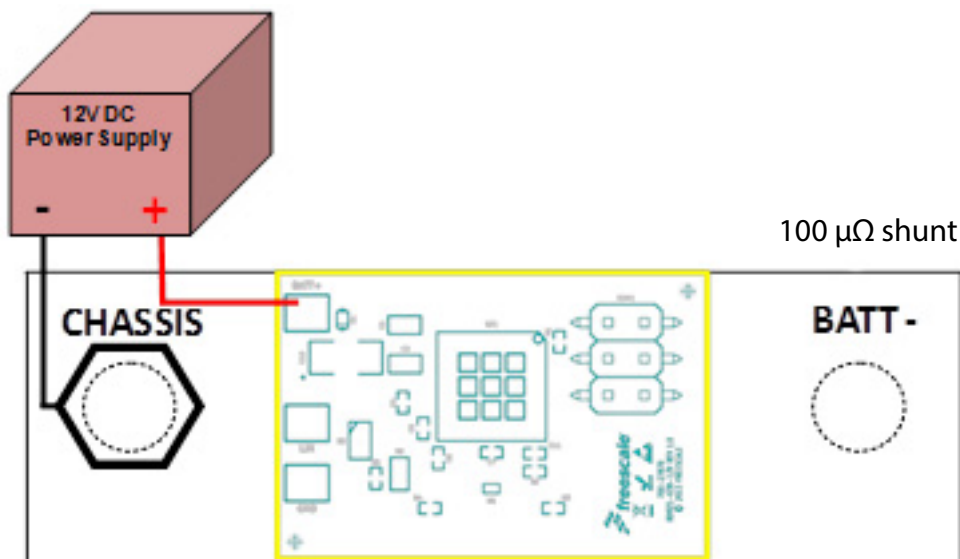
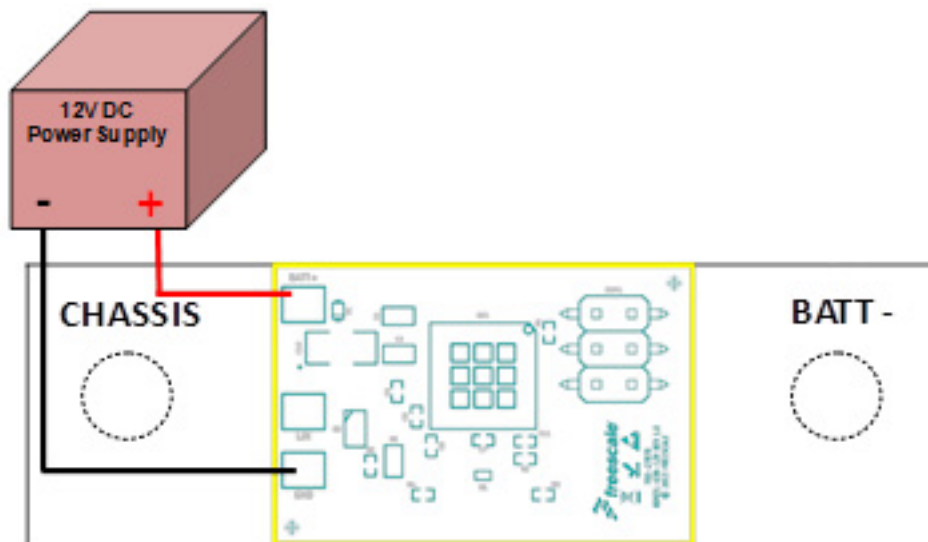

Figure 4. Setup with DC Power Supply (CHASSIS)
Figure 5. Setup with DC Power Supply (GND Pad)
1. If no battery is available, connect a 12 V power supply to BATT+, see Figure 4 and Figure 5.